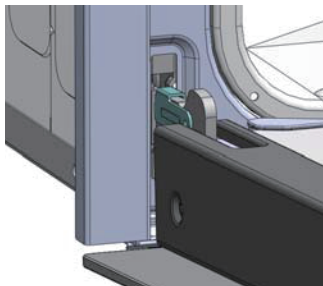

Fig. 1
- Open the door to the full extent (Fig. 1);